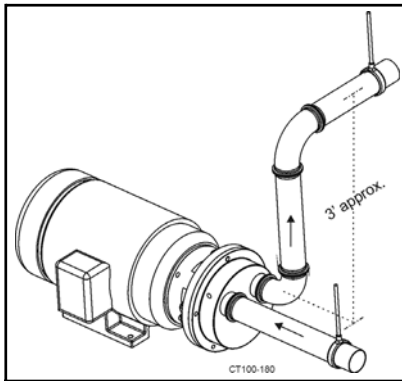

Figure 3 - Vertical Discharge
- **Vertical Discharge Piping:** Ensures backflow into casing for CIP return or similar applications. Install vertical section of pipe no less than 3 feet (1 meter) long in discharge piping (Figure 3).